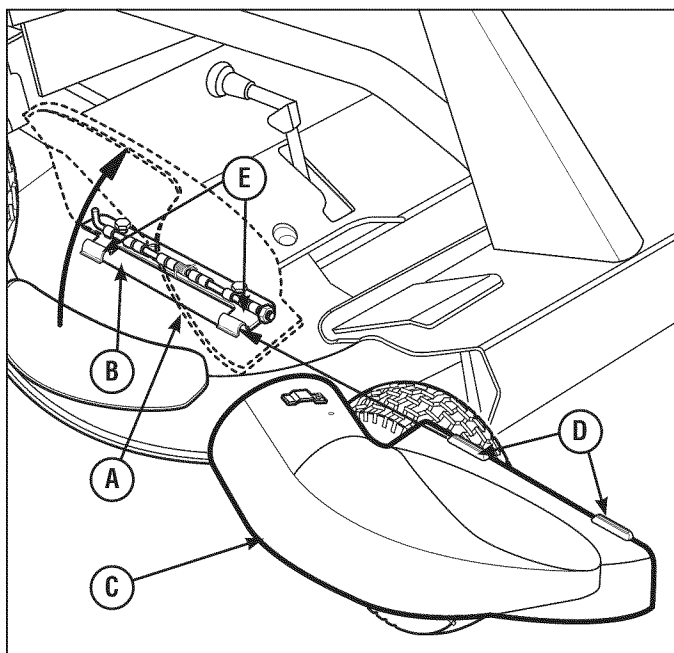

Figure 10
2. Rotate deflector (A, Figure 10) up to expose inside of bagger adapter hinge (B).
3. Position adapter (C) and align the lugs (D) with hinge lug retainers (E).